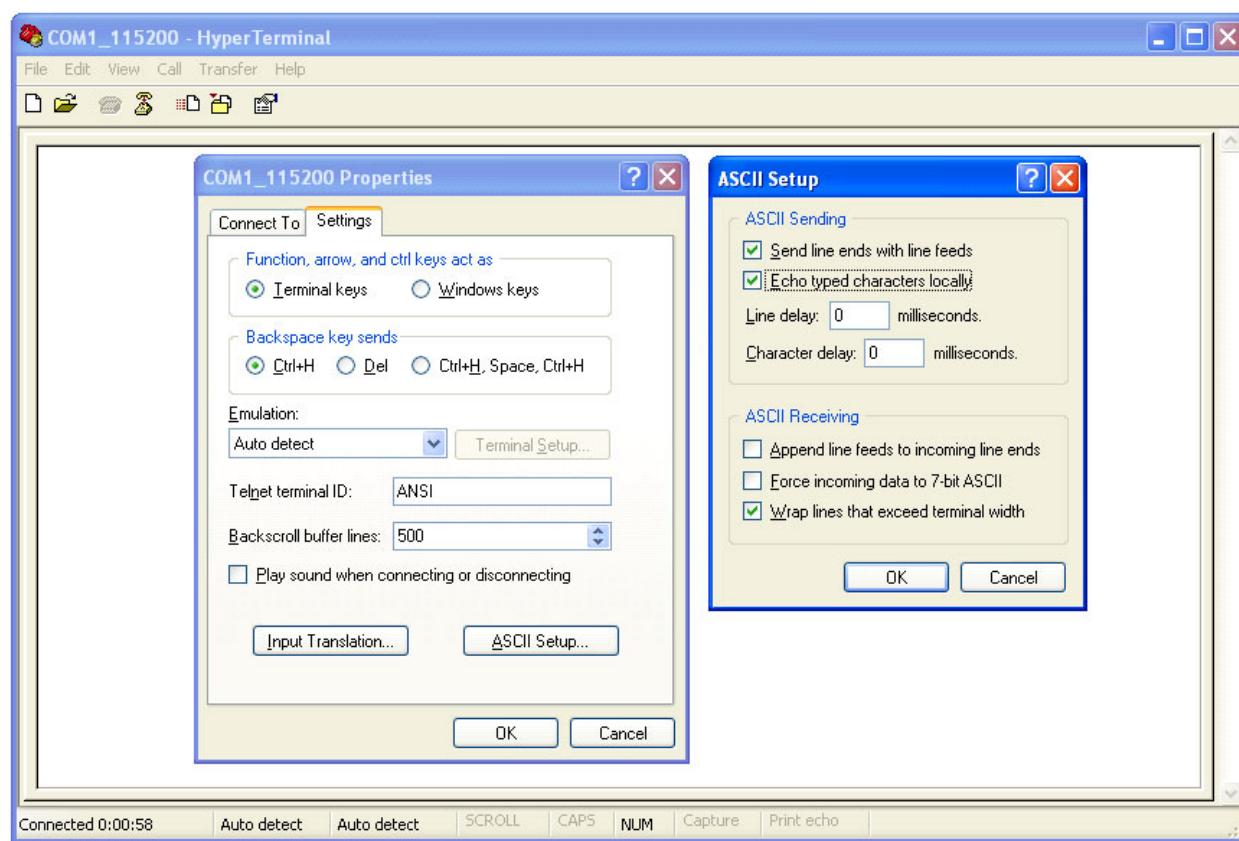

Figure A-13. Configure COM1_115200 - HyperTerminal
5. Configure the HyperTerminal as shown in Figure A-13. Click on the **OK** button to submit changes.